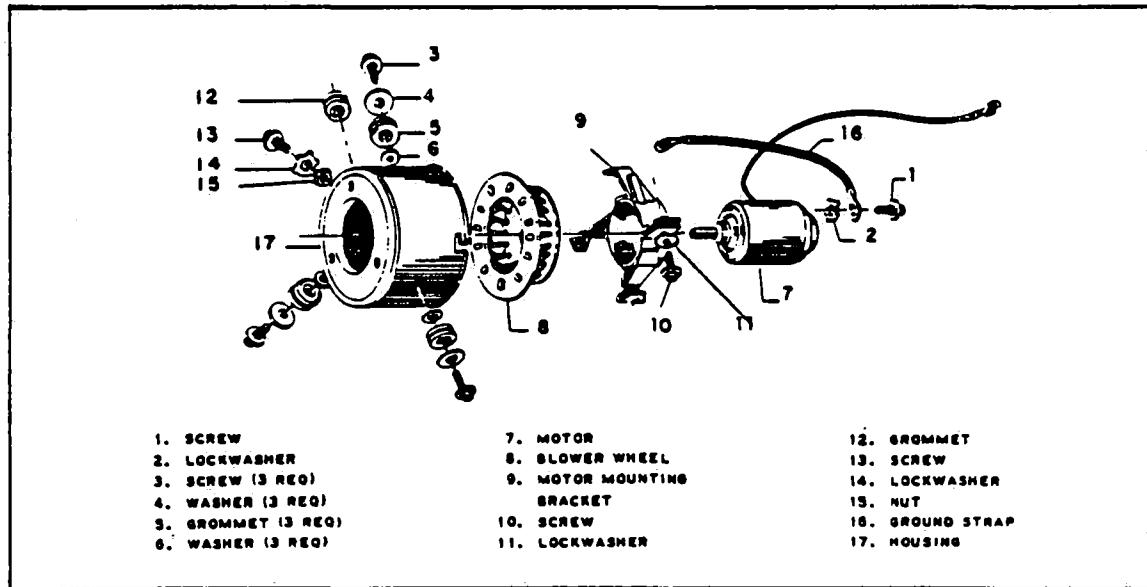

Figure 13-11. Ventilating Air Blower Assembly
13-55. VENTILATING AIR BLOWER. (Refer to Figure 13-11.)
**13-71. VENTILATING AIR BLOWER. (Refer to Figure 13-11.)**
- a. Replace the bracket (9) on the motor (7) in its original position, and tighten the screw (10). Slip the wheel (8) on the motor shaft but do not tighten the set screw.
- b. Install large flat washers (4), new grommets (5), and small washers (6) on each of the three motor mounting bracket screws (3), in order illustrated.
c. Fit the motor and bracket assembly into the housing and start ends of the mounting bracket screws (3) into the weld nuts on the bracket with the washers and grommets on the screws. After screws are started, drop the small washers (6) through the holes in the housing and stuff grommets (5) into the holes. Tighten the screws alternately and evenly to apply a firm pressure to the grommets, and center the motor in the housing. Do not overtighten screws (3), since this will defeat the purpose of the shock-mounting grommets.
d. Reconnect the ground wire (16) to the end of the motor by re-installing the screw (1) and lockwasher (2).